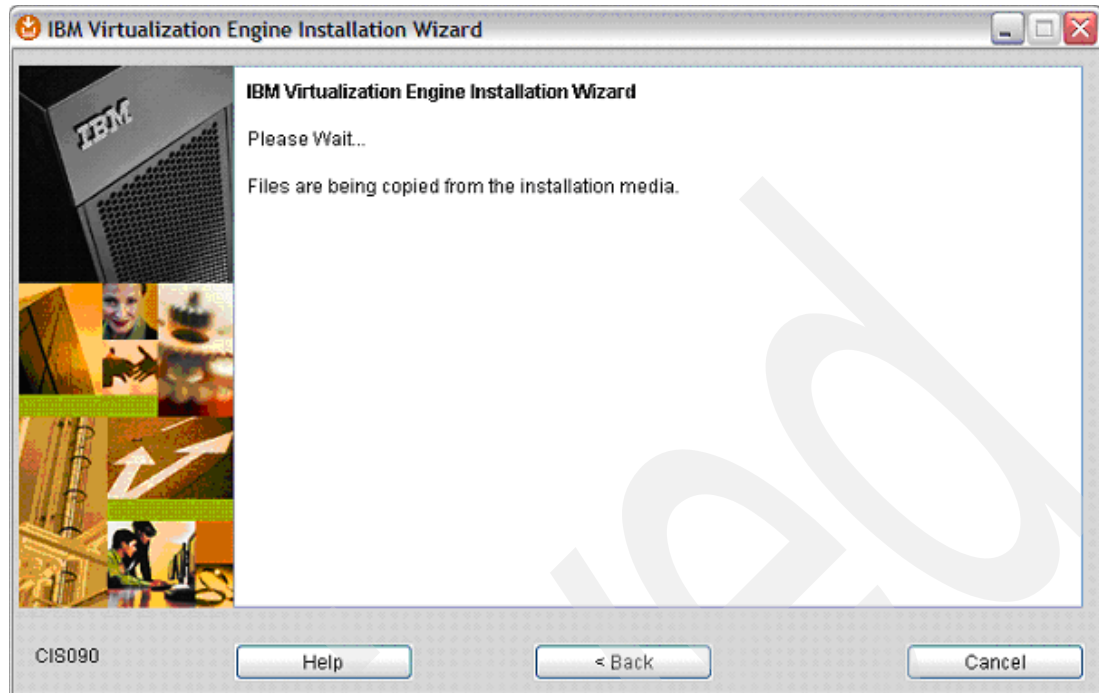

Figure 5-18 Please Wait window
13. A Please Wait window (Figure 5-18 on page 123) opens to indicate that the installation files are being copied from the installation media to the temporary directory.